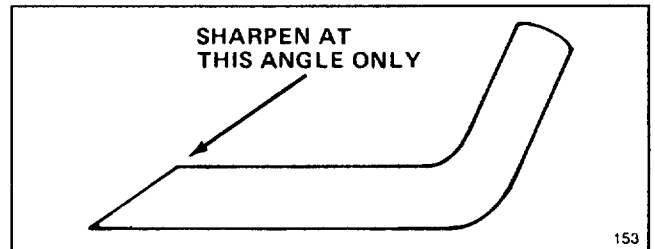

Figure 21
6. SHARPENING BLADE—Using a file, sharpen top side of blade and maintain original cutting angle (Fig. 21). The blade will remain balanced if the same amount of material is removed from both cutting edges.